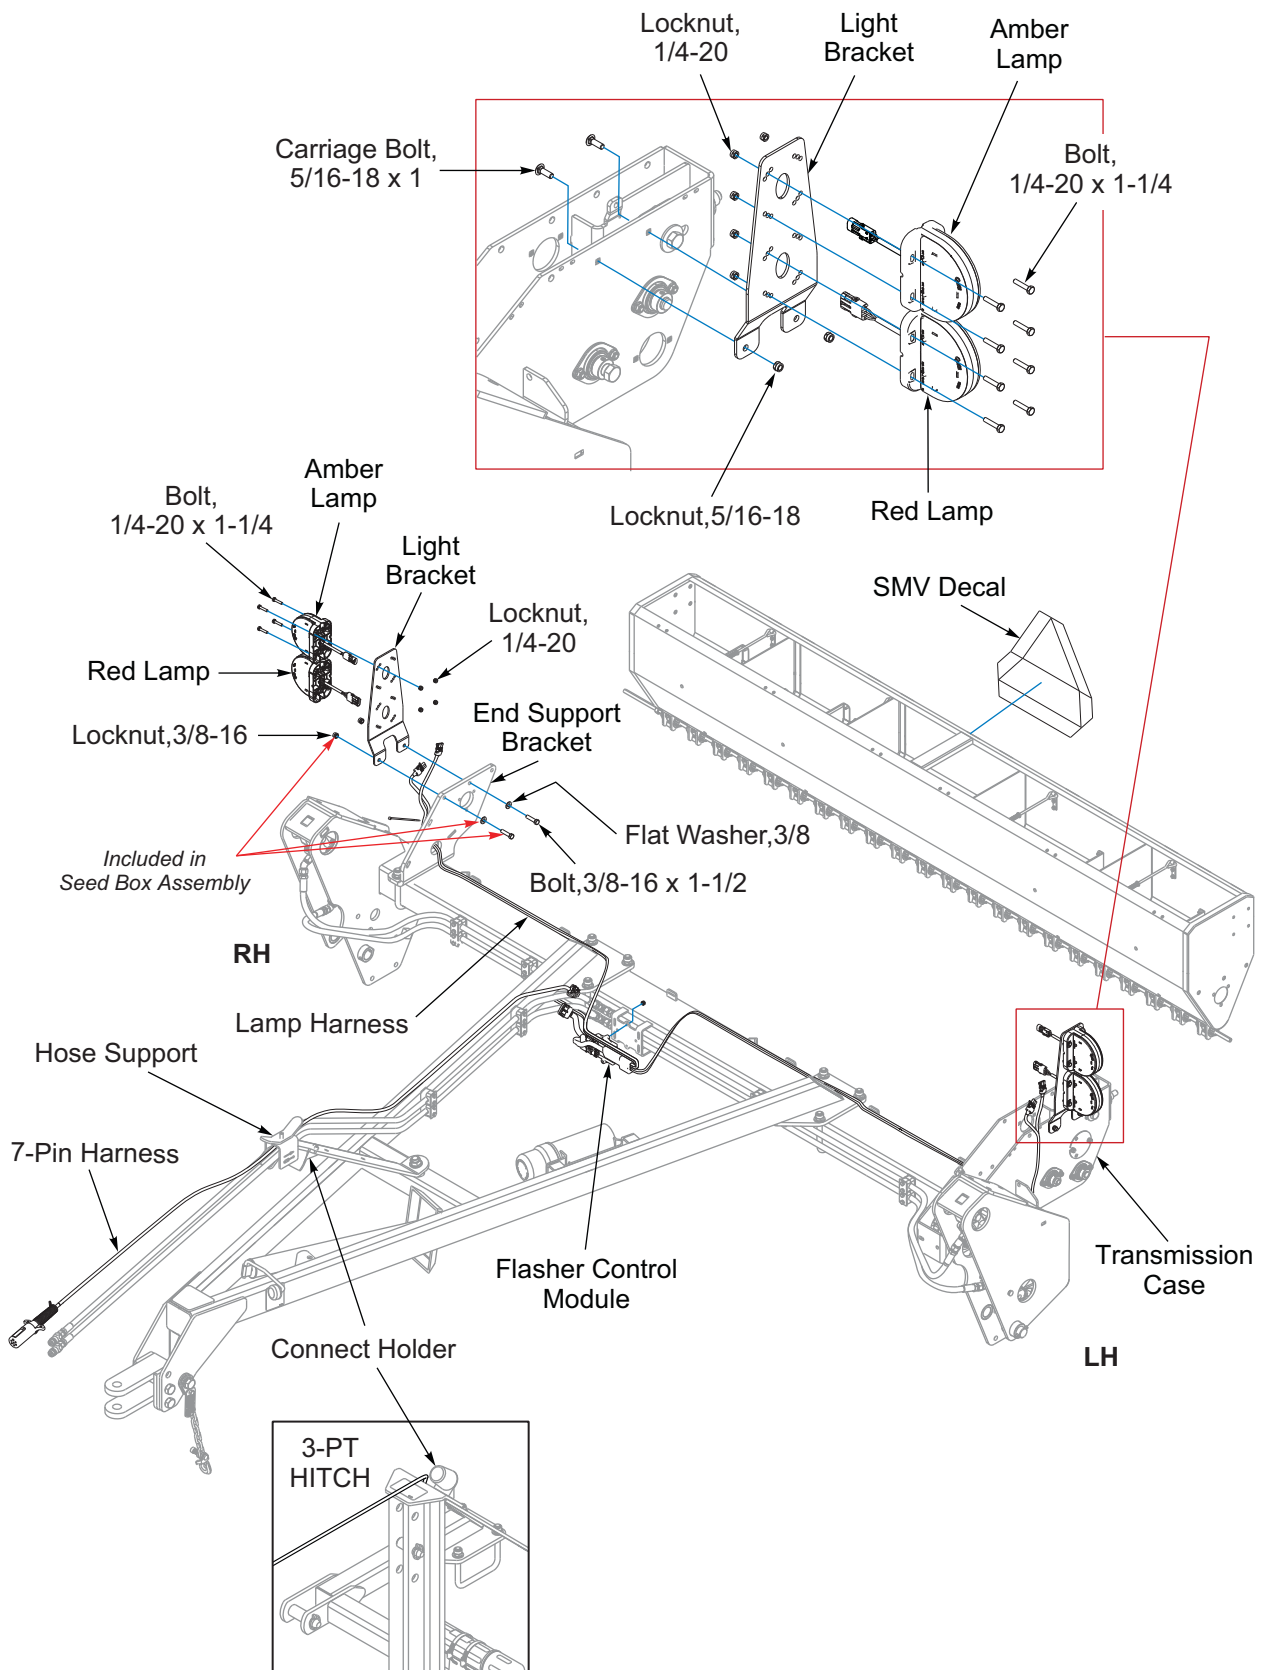

Figure 2-20: Warning Lamps Installation, 8FT and 10FT (After 08/2025)
8. If not installed, attach the Connector Holder to the Drawbar Hose Support or 3-PT Hitch. **See Figure 2-20.**